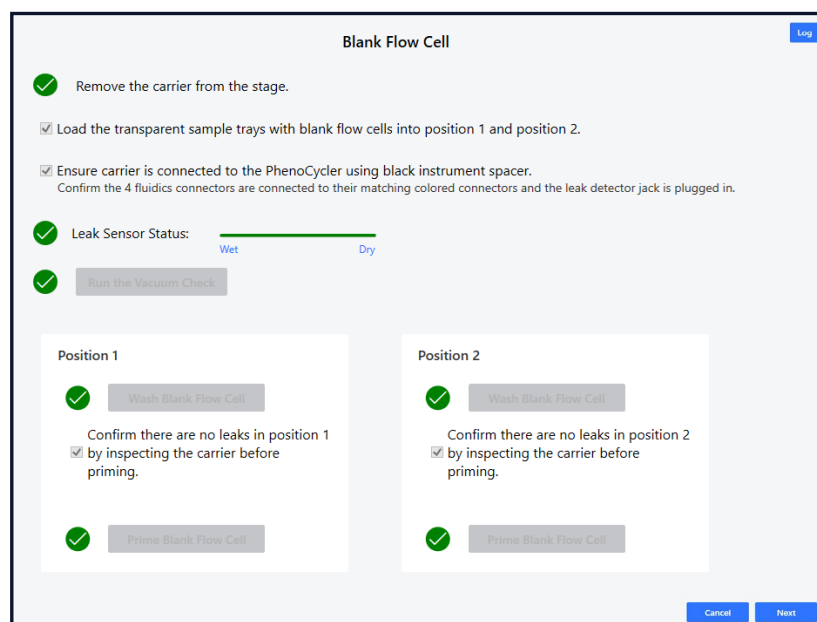

Figure 6.12. Dialog window, Blank Flow Cell complete.
9. The Blank Flow Cell dialog box is complete. (See Figure 6.12.)